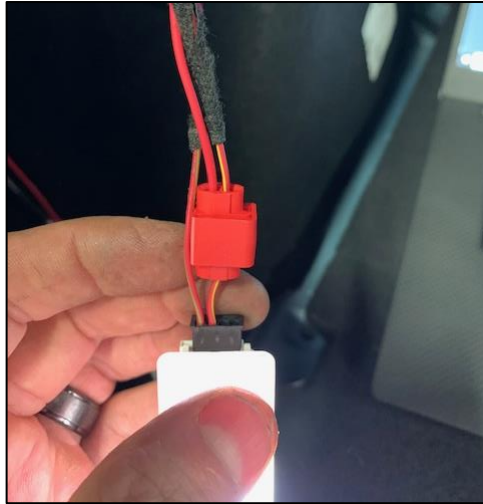

Figure 28: Dome Light Connection
8) Attaching to power: Figure 28